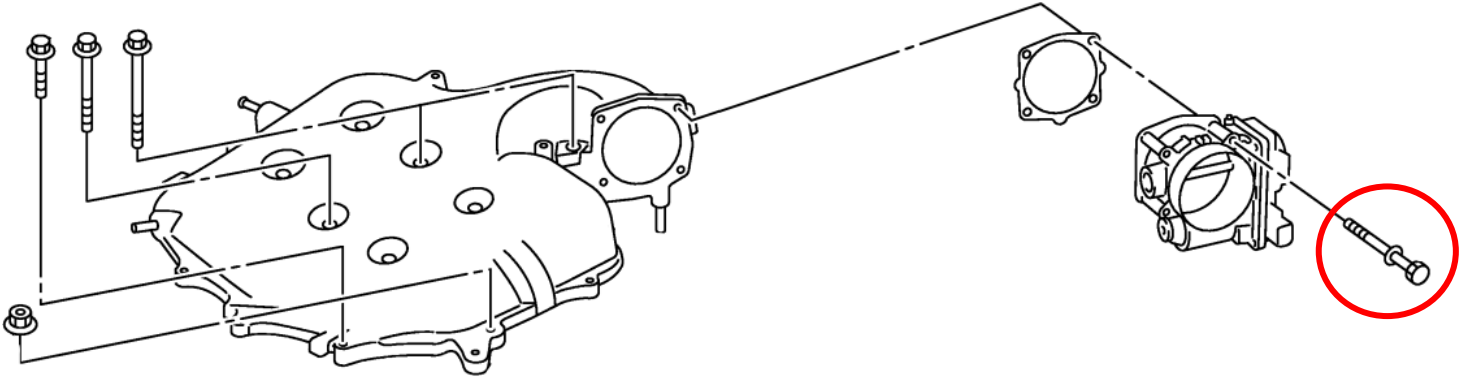

Figure 1
5. Remove the OE Throttle Body from the Intake Manifold by disconnecting the Wiring Harness from the Throttle Body and removing the (4) four socket head bolts that secure it. *Figure 1.*